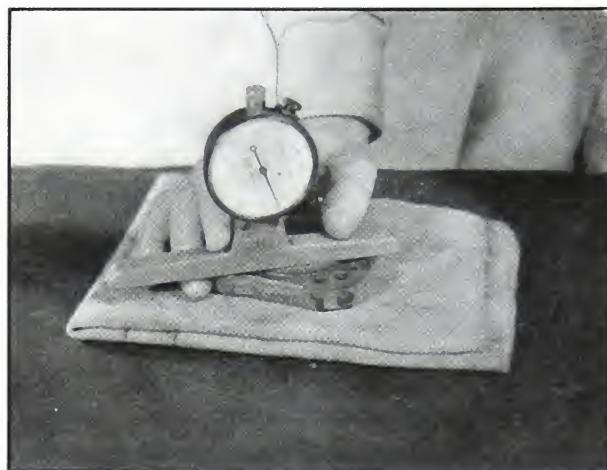
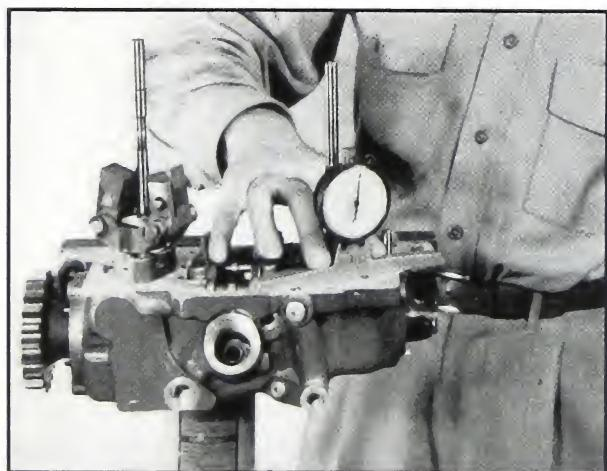

Fig. 5-329. Check height of suction plate boss
Fig. 5-328. Check depth of bearing
3. Check depth of disc drive bearing in housing (Fig. 5-328), then check height of boss on the suction plate. (Fig. 5-329).